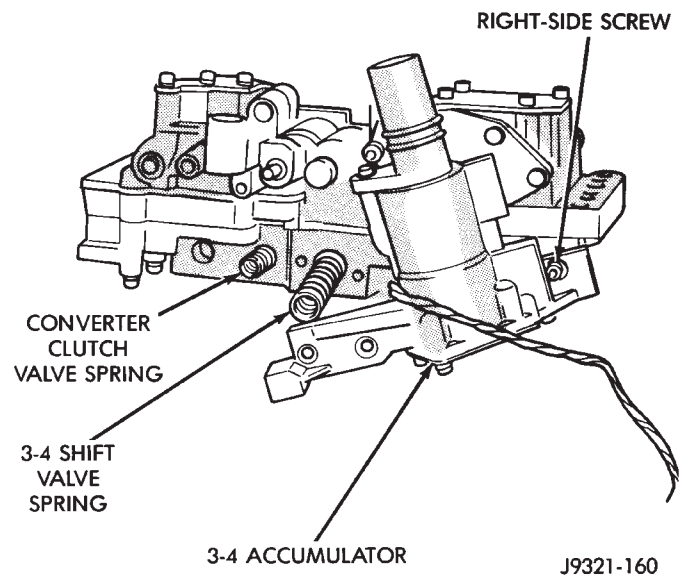
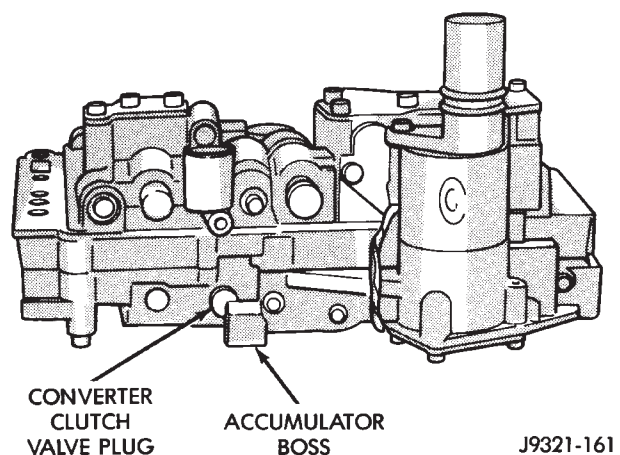

Fig. 122 Installing Converter Clutch And 3-4 Shift Valve Springs—46RH
Fig. 123 Seating 3-4 Accumulator On Lower Housing—46RH
- (1) Position converter clutch valve and 3-4 shift valve springs in housing (Fig. 122).
(2) Loosely attach accumulator housing with right-side screw (Fig. 122). Install only one screw at this time as accumulator must be free to pivot upward for ease of installation.
(3) Position plug on end of converter clutch valve spring. Then compress and hold springs and plug in place with fingers of one hand.
(4) Swing accumulator housing upward over valve springs and plug.
(5) Hold accumulator housing firmly in place and install remaining two attaching screws. Be sure springs and clutch valve plug are properly seated (Fig. 123).